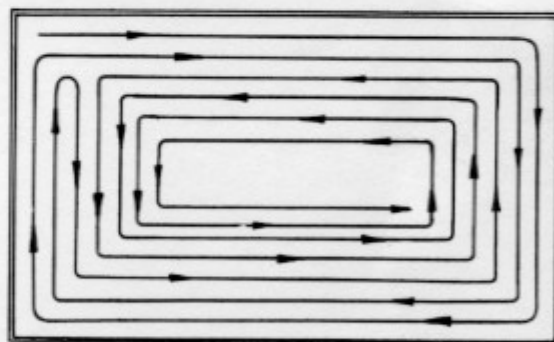

Figure 38. Mowing Pattern
- Turn to the right when beginning to mow large open areas to discharge clippings away from borders such as sidewalks, fences, driveways, etc. After making two or three passes this way, mow in the opposite direction turning to the left to finish. See Figure 38.